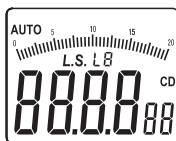

Figure 5-6-3
- Hold the “Lx/Fc/CD” button to save the distance and the LCD display will now show the measured light intensity measurement (as shown in figure 5-6-3).
**Light intensity (CD) = illuminance (Lx) \* distance squared (m2)**